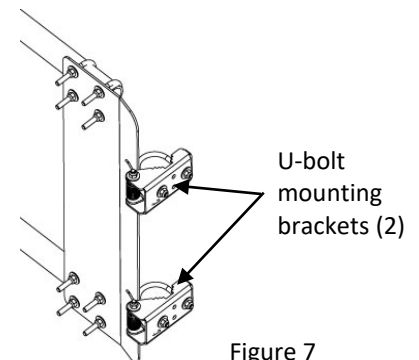

Figure 7
3. Install safety gate using two U-bolt mounting brackets on applicable upright post, *figure 7*.